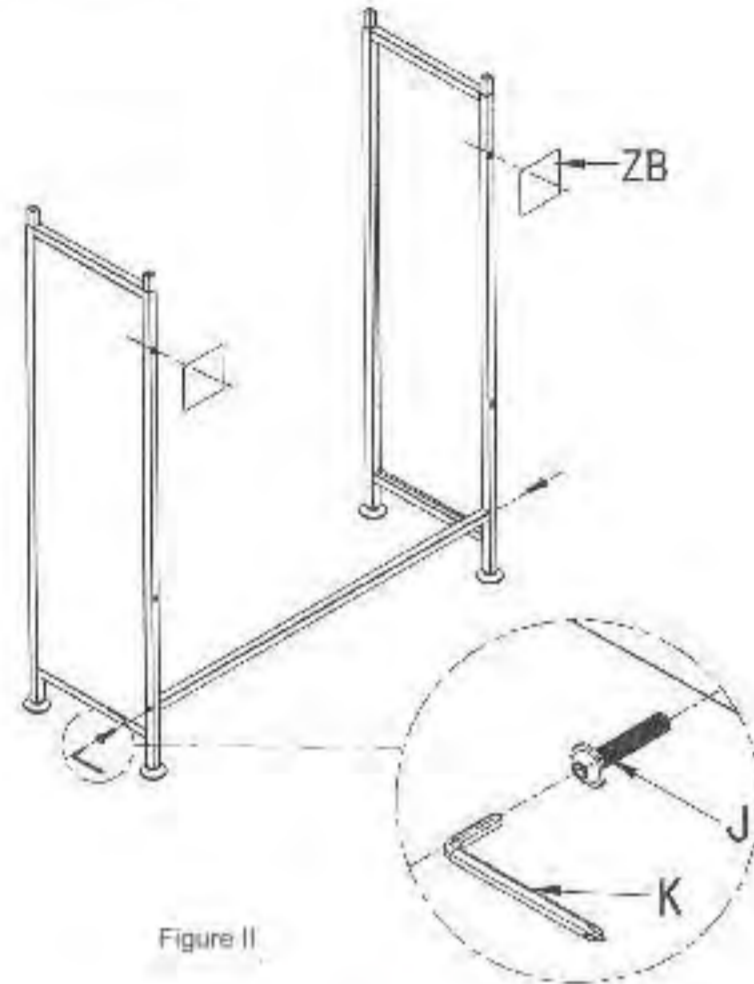

Figure 2
2. Use M6*25 pan-head hexagon socket screws to install and fix the connecting pipe into the left and right lower side frames, then use M6*12 hexagon socket flat-head bevel screws and M6*12 cap nuts to press the two cross rods as follows installation shown in Figure 2.
2. Use M6*25 pan head hexagon socket screws to install and fix the connecting pipe to the left and right lower side frames, and then install the traceless sticker as shown in Figure 2